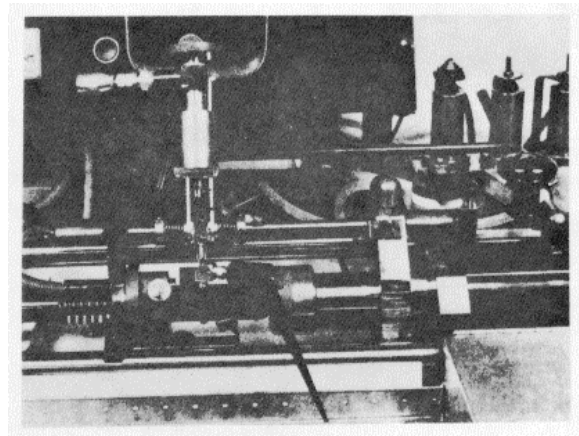

Figure 16H-106. Dummy Injector Connections
3. Connect the dead weight tester 6 mm fitting and dummy injector in connection with the nylon hose, Figure 16H-106.